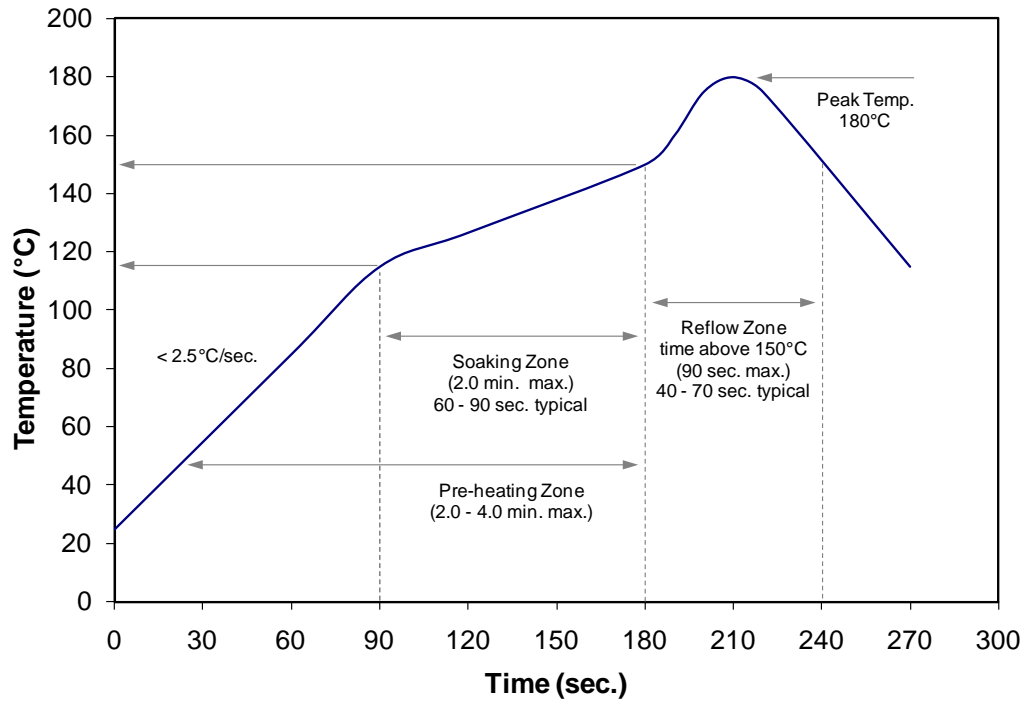

Figure 3: Reflow soldering profile for lead free soldering.
- Use low temperature solders. LedEngin recommends 58Bi-42Sn (wt.%) Solder. See Reflow Soldering Profile Figure 3.
Notes for Figure 3: